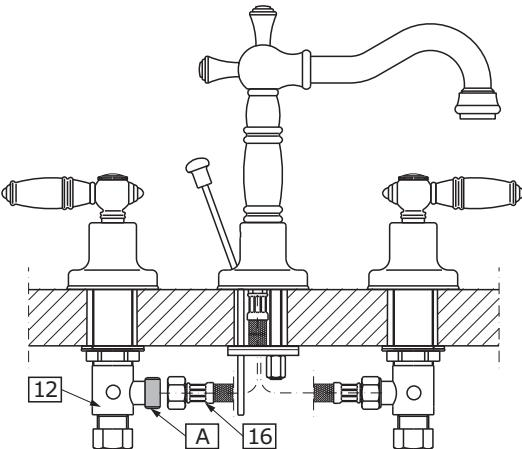

FIG. 4b
- ▶ Apply thread sealant or tape on the sealing area (**A**) – see fig. 4b.